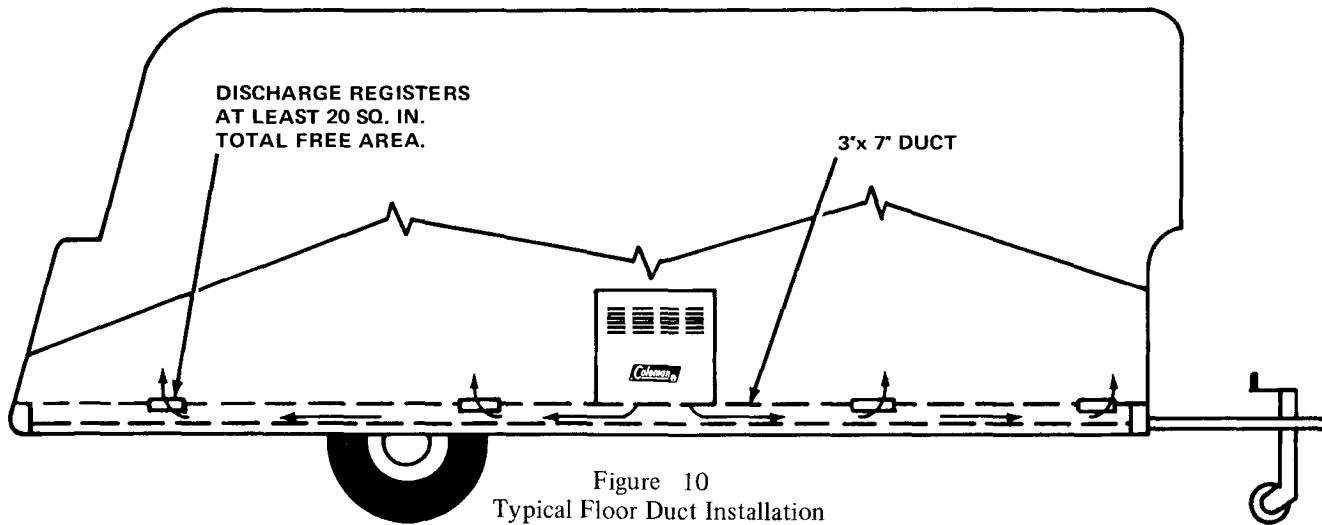

Figure 10
9. Refer to Figure 10 for an illustration of a typical floor duct installation complete. Be sure to use discharge registers having a minimum of 20 square inches total free area.